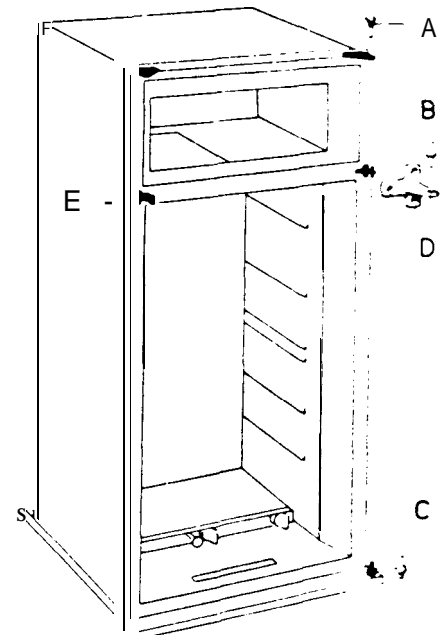

Fig. 33
1. Unscrew and remove the upper hinge bolt (A) on the freezer door, incline the door outwards and lift off the door (fig. 33).
2. Remove the middle hinge bolt (B) and lift off the cabinet door.
3. Move the lower hinge bolt (C) to the opposite side.
4. Unscrew the middle hinge (D) and the holder with travel latch (E) and change their positions to opposite side.